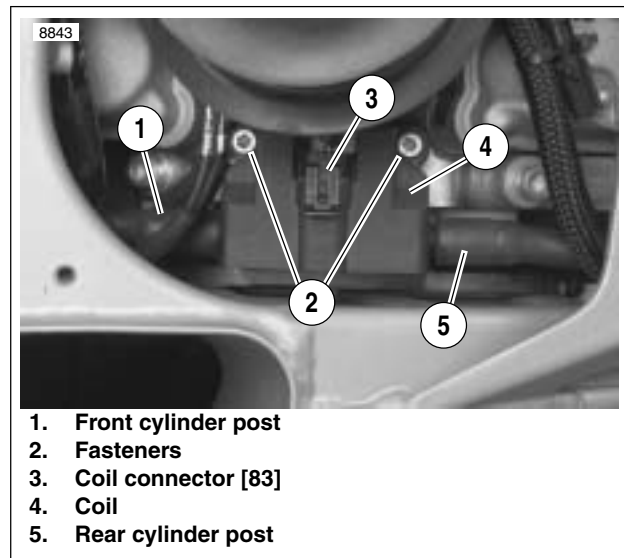

Figure 4-70. Ignition Coil Location
4. See Figure 4-70. Disconnect the spark plug cables from the coil plug posts (1, 5).
5. Detach connector (3) [83].
6. Remove coil fasteners (2).
2. See Figure 4-70. Attach coil to frame with fasteners (2). Tighten to 120-144 **in-lbs** (13.6-16.3 Nm).
4. Attach connector (3) [83].